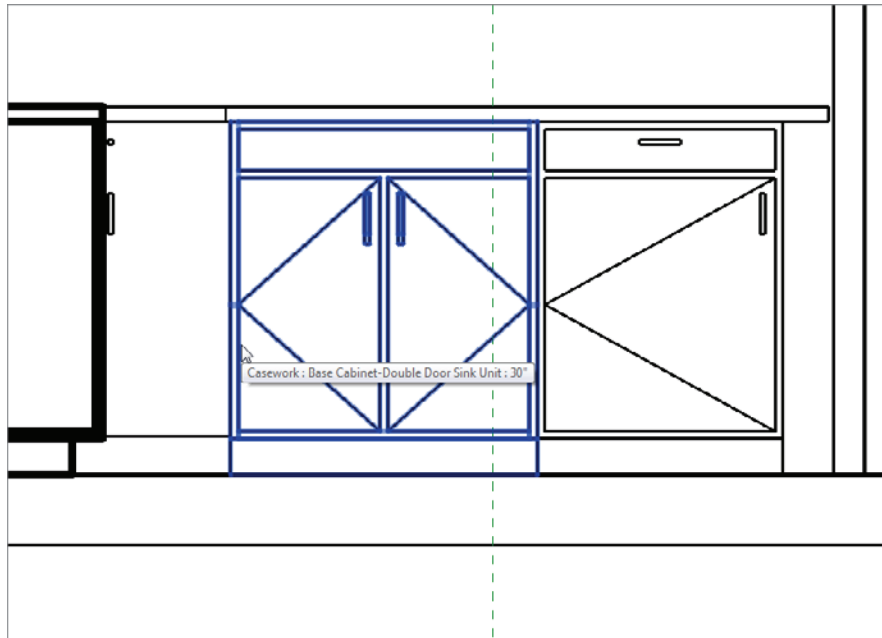

FIGURE 11.86 Picking the base cabinet with two doors and one drawer
2. Zoom in on the cabinets, as shown in Figure 11.86.
5. Pick the base cabinet with two doors and one drawer (see Figure 11.86).